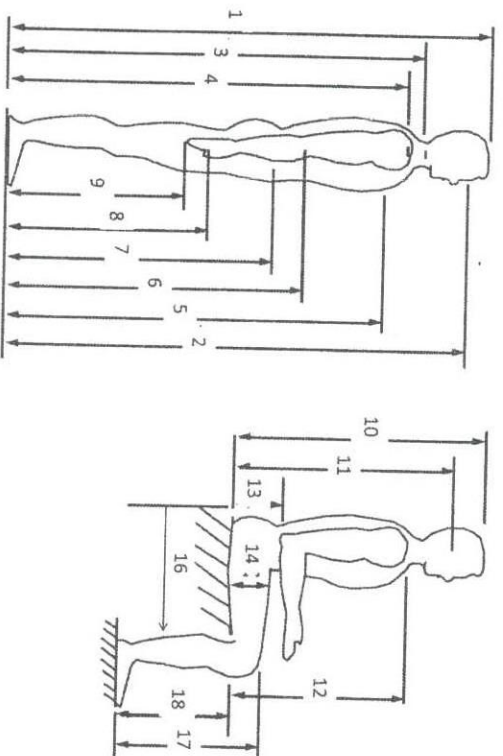

Figure Q2
- c) Your company asked you to design an adjustable computer chair which is suitable for the middle 90% of the population. Use the data given in Table Q2 and Figure Q2, answer the following questions. [2.0 Marks]
Table Q2 Dimensions (in mm) related to the measurements in Figure Q2